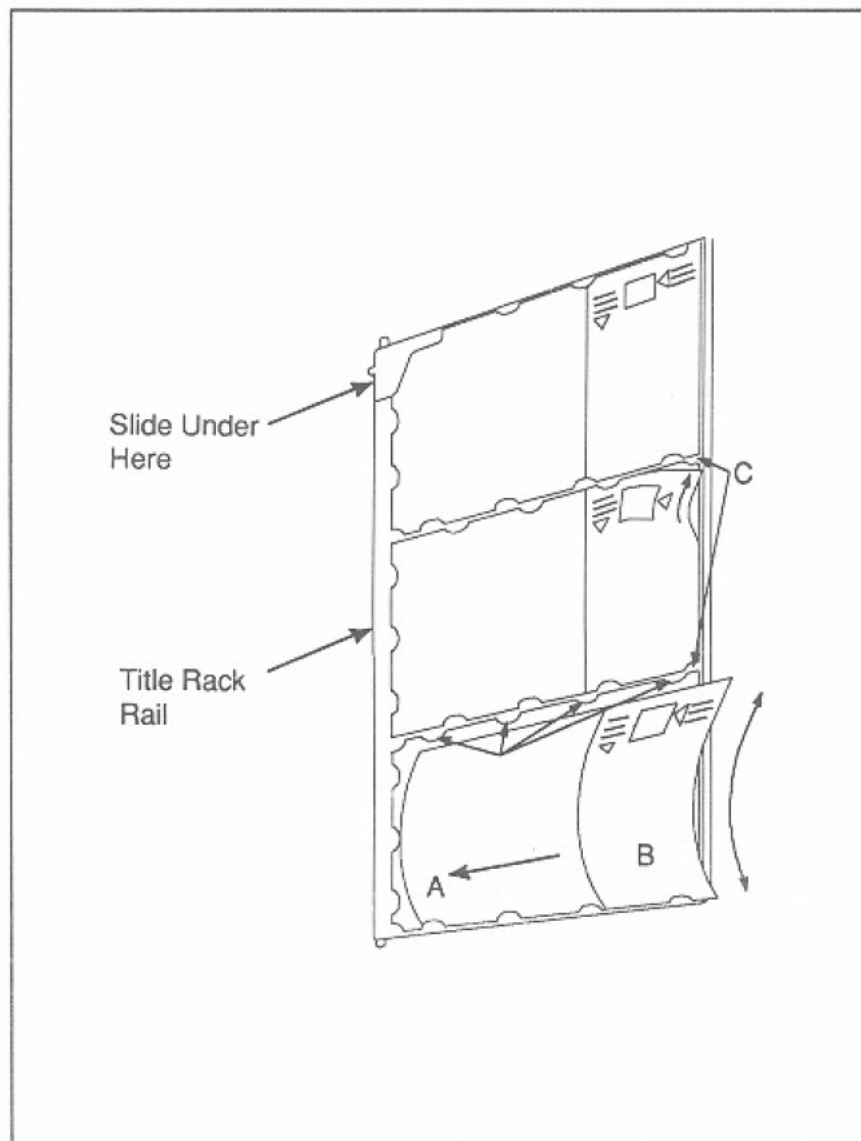

Figure 3-5. Loading the Title Rack
5. Insert the CD booklet under the top and bottom tabs of the title rack. Slide the CD booklet toward the pivot of the title rack until the booklet is trapped by the molded stops on the title page (see *figure 3-5, ref A*).
6. Insert the folded title strip under the top and bottom tabs of the title rack. Slide the title strip until the disc number shows in the opening of the title strip and the title strip is locked in place by the molded stops (see *figure 3-5, ref B*).
7. All of the tabs surrounding the CD booklet and title strip should be holding them in place. If you missed a tab, carefully tuck the loose paper under the tab as shown in *figure 3-5, ref C*.